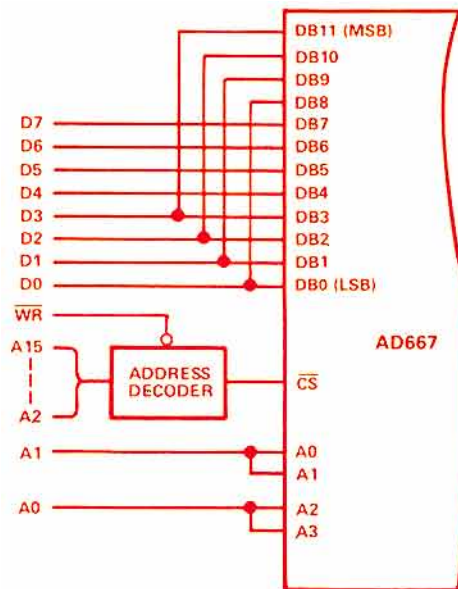

Figure 2. Connections for right-justified 8-bit bus interface.
**Versatility:** The AD667's positive-true digital data inputs are compatible with both TTL and 5-volt CMOS logic. Divided into 3 4-bit quads, they accept input data in a sequence of 4-bit nybbles from 4-bit buses, 8 + 4 or 4 + 8-bit bytes (left- or right-justified — see Figure 2) from 8-bit buses, and 12 bits in parallel from 12- or 16-bit buses. The inputs are double-buffered—this means that the converter may be updated when all 12 bits have been loaded, avoiding spurious analog output values. The control signals may be arranged for automatic updating when the full 12-bit word has been loaded. In addition, a group of DACs may be updated simultaneously or in any desired sequence after having been loaded asynchronously by any of the above schemes. Since the latches are level-triggered, they may be hard-wired in a transparent mode.